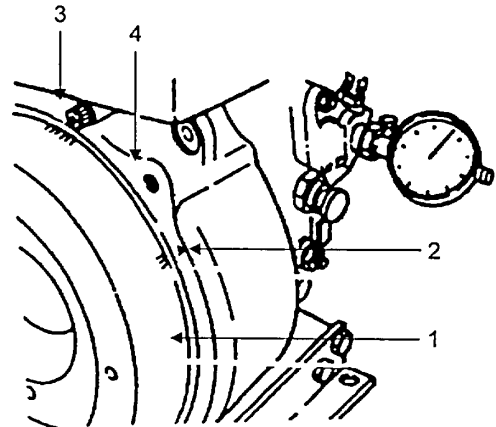

FIGURE 5-7. REFERENCE MARKS
The position of TDC (Figure 5-7, Item 2) and end of delivery (3) is marked on the flywheel (1). The corresponding alignment mark (4) is on the right upper side of the crankcase.